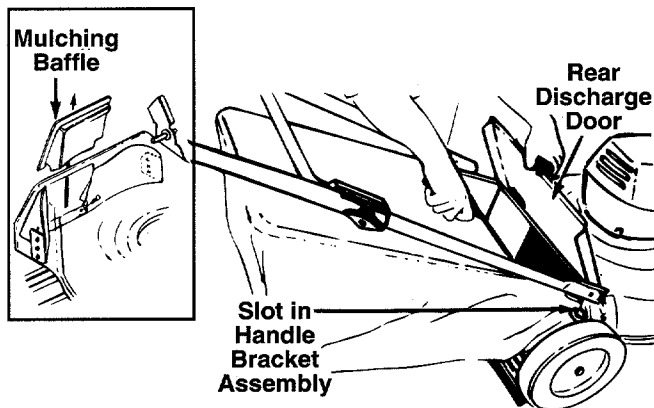

FIGURE 2.
- Lift the rear discharge door on the mower. Remove the mulching baffle. See figure 2, inset.
- Place the hooks on the grass catcher into the slots in the handle bracket assemblies. See figure 2. Release the rear discharge door.